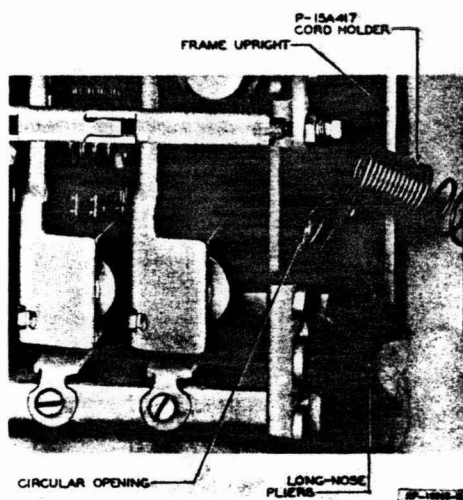
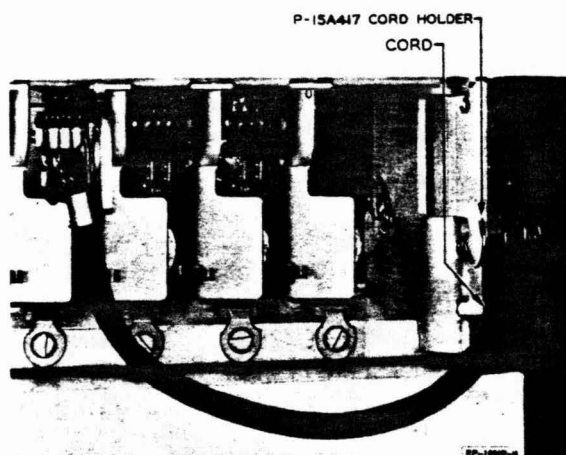

FIG. 3 ILLUSTRATING MOUNTING OF P-15A417
FIG. 4 ILLUSTRATING MOUNTING OF SERVICE
9.1 Cord - Mount the cord holder in the circular opening on either side of the crossbar switch as follows. Firmly grasp the short straight portion of the cord holder with the long nose pliers. Insert the holder between the switch and the frame upright as shown in Figure 3. With the cord holder at an angle of approximately 45 degrees to the circular opening in the side of the crossbar switch, insert the first loop into the opening. Press downward and toward the switch until the entire loop including the bend adjacent to the pliers is inside the opening. Remove the pliers. Rotate the holder until the portion outside the hole is in the position nearest the front of the switch. In the final position, the spring will appear as shown in Figure 4. Remove the cord holder from the crossbar switch by grasping the short